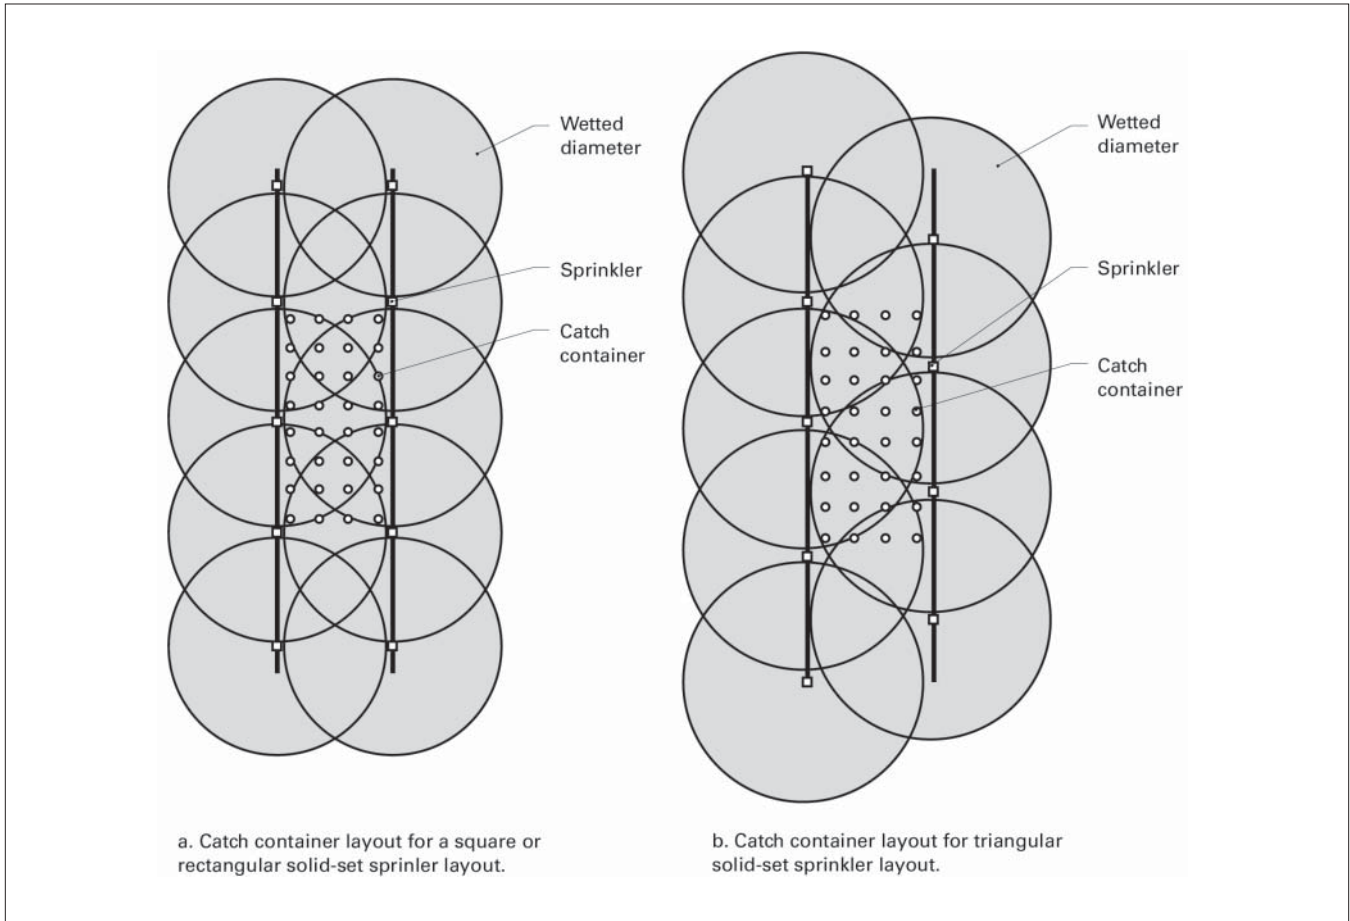

Figure 36-7. System layout for a solid-set irrigation system.
Solid-set sprinkler irrigation systems. The wastewater application rate from a stationary impact sprinkler or volume gun depends on the flow rate, wetted diameter, amount of time it operates at a location, and sprinkler location pattern. To attain acceptable application uniformity with multiple sprinkler setups, the sprinkler spacing should be 50% to 70% of the sprinkler's coverage diameter (Figure 36-7).
- From Step 2, calculate the required sprinkler spacing (SS) as 50% to 65% of the coverage diameter. Refer to Figure 36-7 for a diagram of a stationary sprinkler setup.